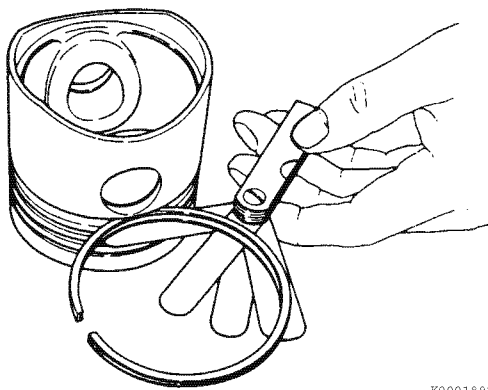

Figure 6-68
9. Place each compression piston ring in the groove as shown (**Figure 6-68**). Use a feeler gauge to measure the clearance between the piston ring and the piston ring land. Record the measurements. See *Piston Ring* on page 6-8 for specifications. Replace the piston if not within specification.